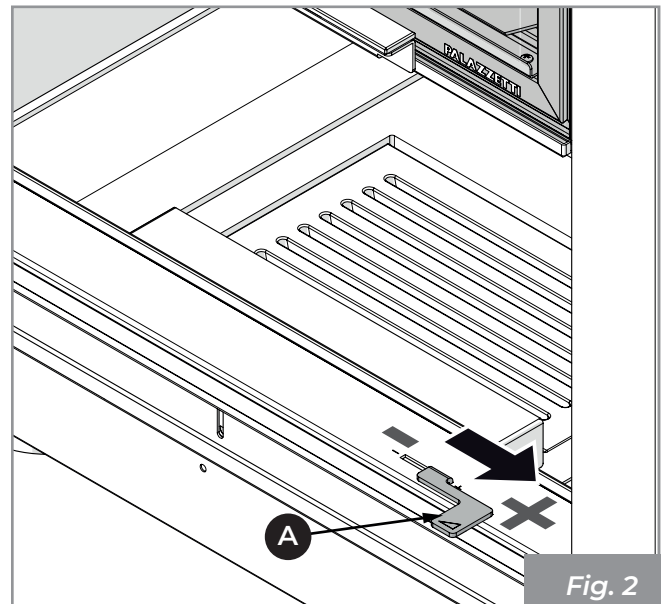

Fig. 2
- 2) Open the primary air regulation to maximum (+) **(A)** (**Fig. 2**).
- 8) Keep the air vent open to ensure a high, bright flame (Fig. 2).
- 9) Reduce the opening of the air intake (A) (Fig. 2) only when a good base of embers has formed.